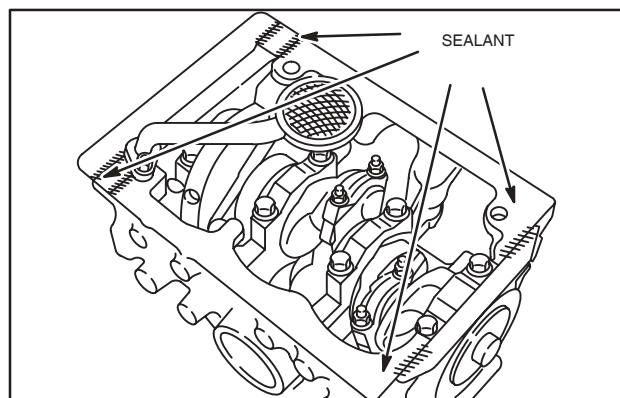

Fig. 22 – Installing Oil Pan
- a. Apply a small bead of Permatex® No. 2 or similar sealant to crankcase areas shown, Fig. 22.